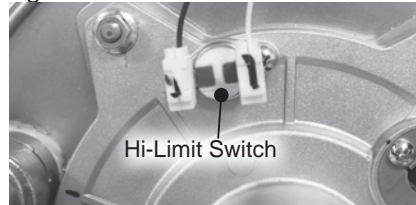

Figure 23 - Hi-Limit location
4 Locate the burner door hi-limit on the burner assembly as shown in Figure 23. Disconnect the two (2) wire leads (labeled HI-LIMIT 1) from the hi-limit assembly and route them inside the water heater cabinet for ease of access to hi-limit. See Figure 23. Figure